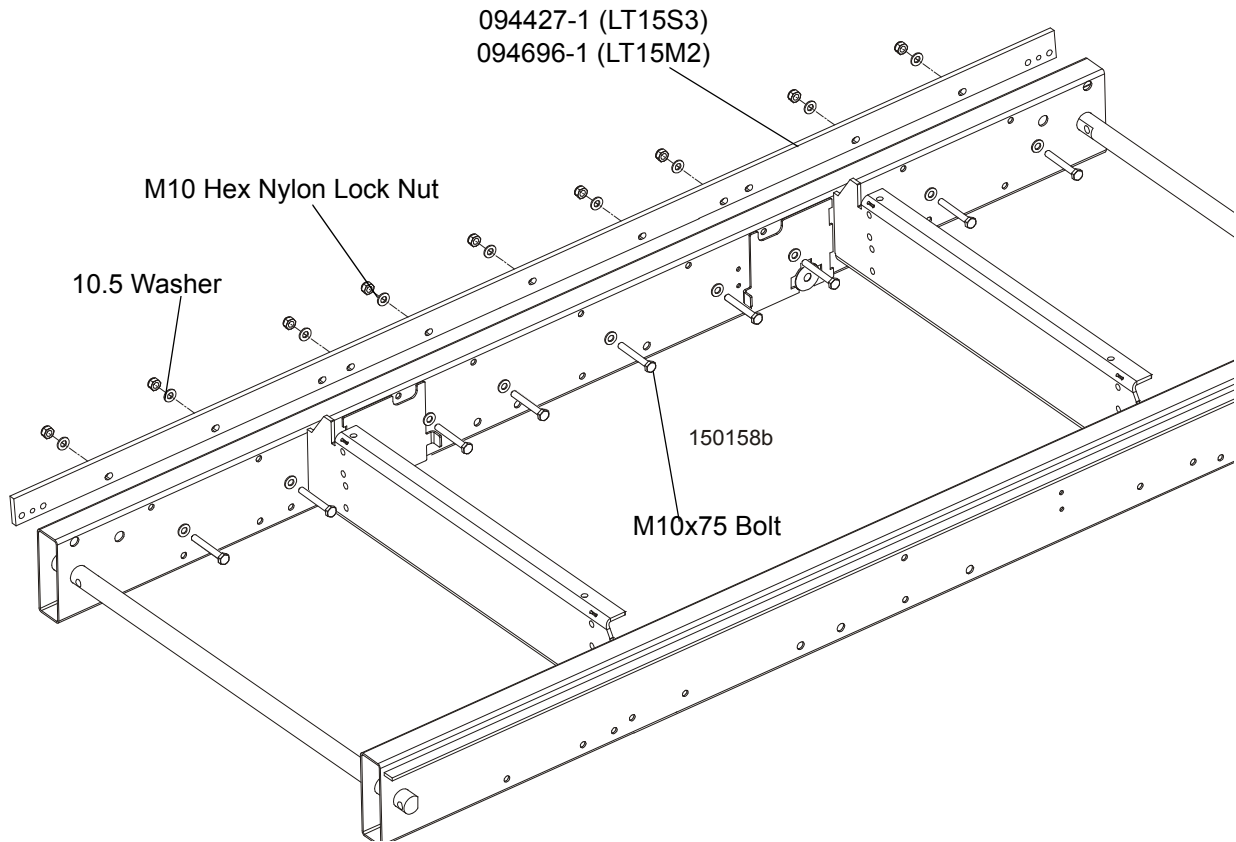

FIG. 2-2
- Mount preliminarily the track rail as shown in Figure 2-2. Do not tighten the nuts.
See Figure 2-2.